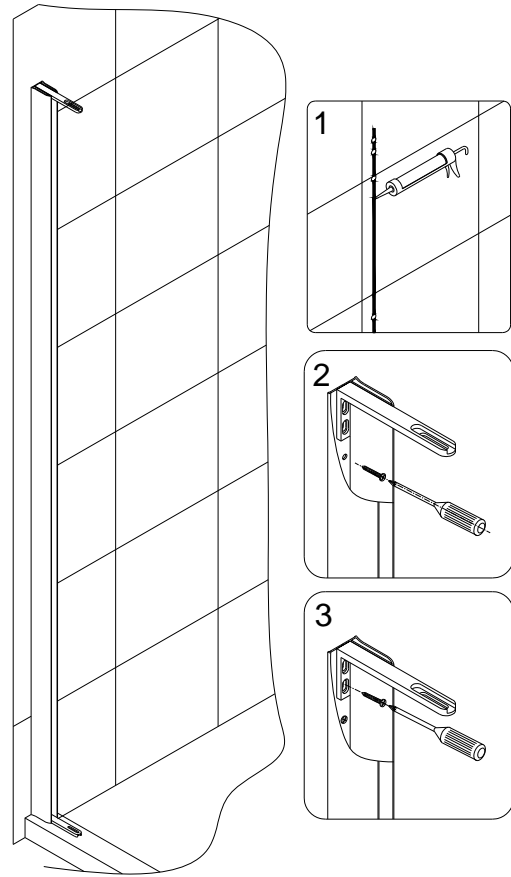

Fig 2
2. Apply silicone sealant along the holes on the wall. Push the **Pivot retainer (8)** into the top and bottom sides of the **Wall profile for glass door (1)**. Attach the wall profile to the wall using **Round head screws ST4.2×30 (17)**. See Fig 2 for details.